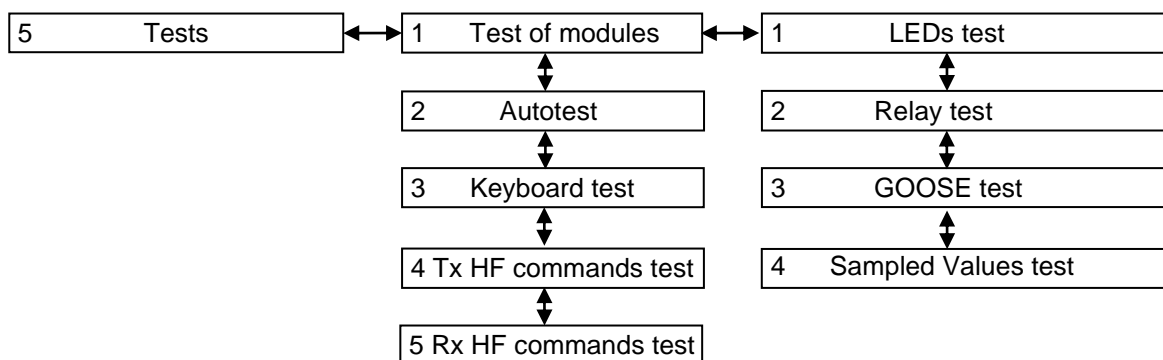

Figure 83 – Structure of **Tests** menu
**Tests** menu item provides an option to test operation of system components and it has the following items (see figure 83):